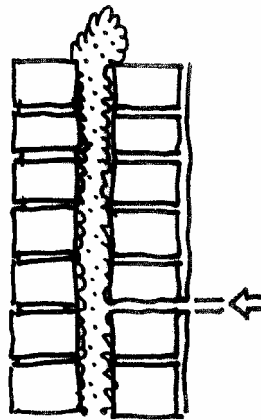

Figure 10.14 – Foamed insulation in cavity wall
- ❖ Avoid restraining the insulation while foaming, since this can damage the walls. *Fig10.14*